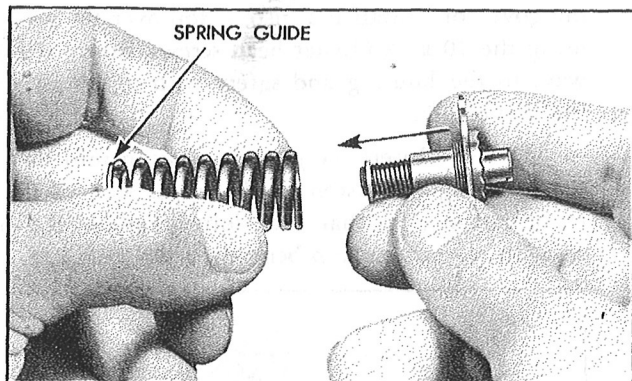

Figure 240—Insert Adjusting Screw into the Spring
*Step 8.*—Holding the adjusting screw assembly, turn the adjusting screw until the nut is against the head of the screw. This will relax the tension of the spring during reassembly. Place the spring adjusting screw in one end of the spring and the spring guide in the other. See Figure 240.